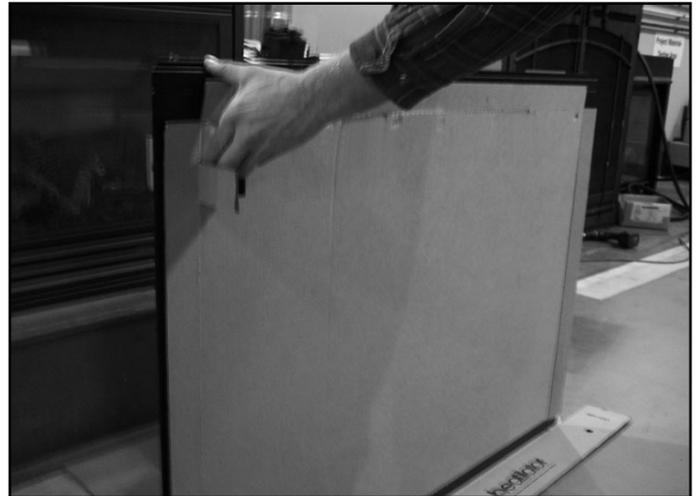

Figure 14.2 Open Access Flap
- Open the flap in the upper left hand corner of the screen protector (Figure 14.2)